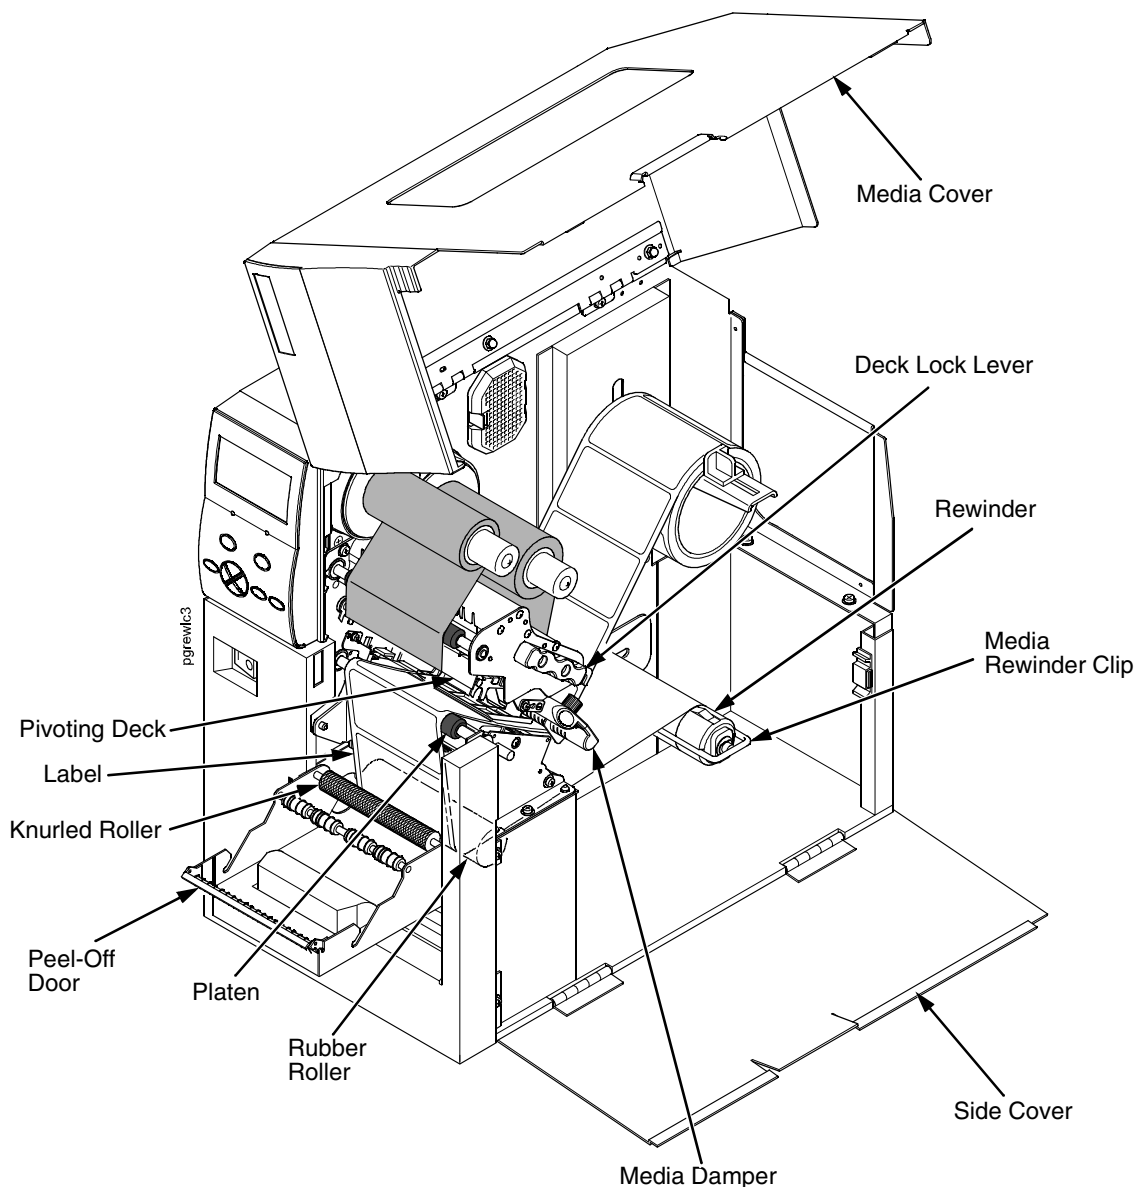
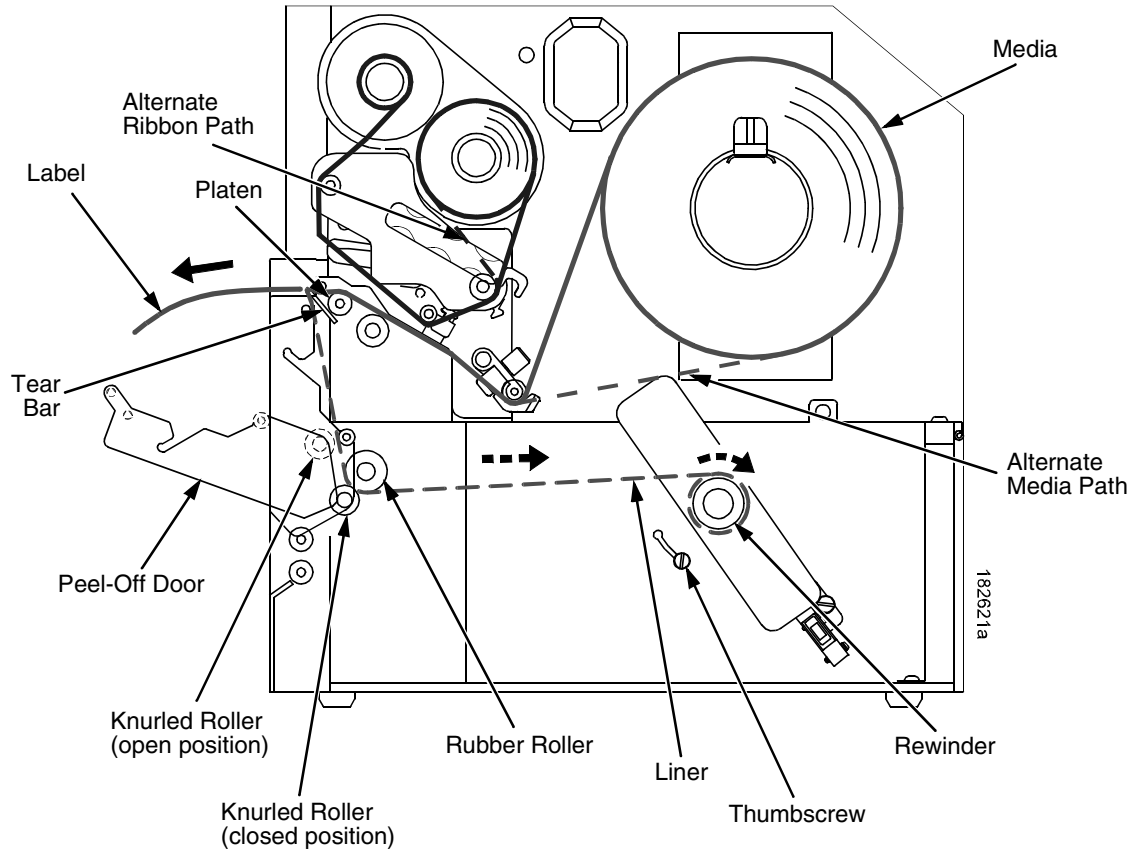

Figure 11. Loading Media on the Standard Peel with Liner Rewinder
Figure 12. Standard Peel with Liner Rewinder Media Path
6. Thread the media under the media damper, over the platen, and in between the knurled roller and the rubber roller. See Figure 11 and Figure 12.